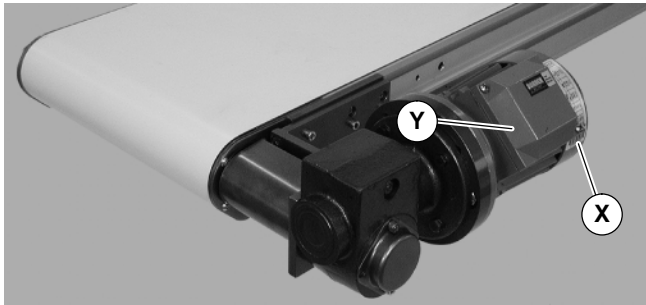

Figure 15
- a. Loosen terminal box screws (X of Figure 15) and remove cover (Y).